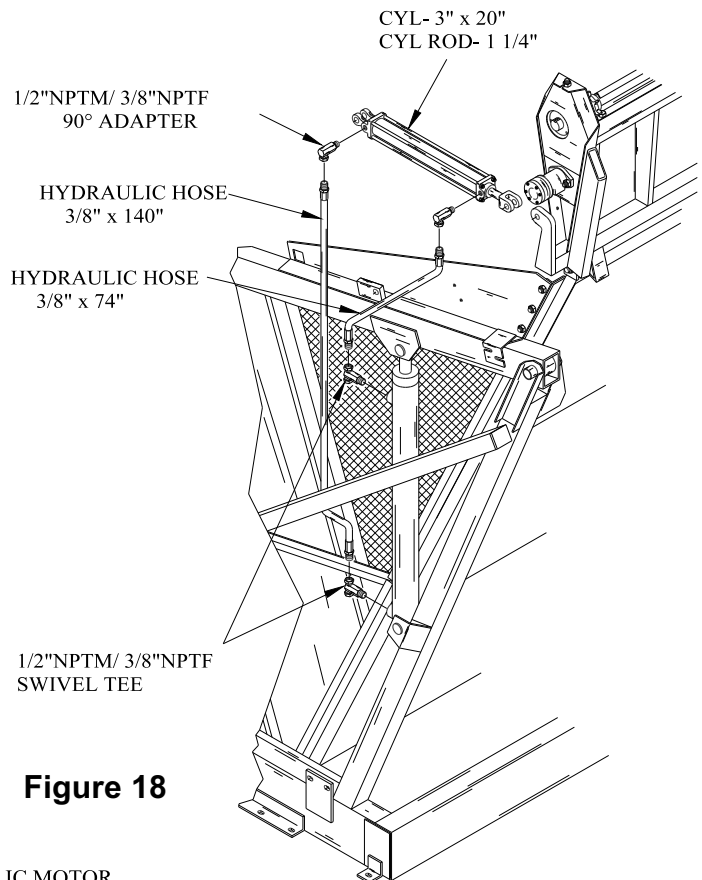

Figure 18
13. CHAIN DUMP HYDRAULICS -Refer to Figure 18. Install the unload panel hydraulic cylinder hoses as shown.